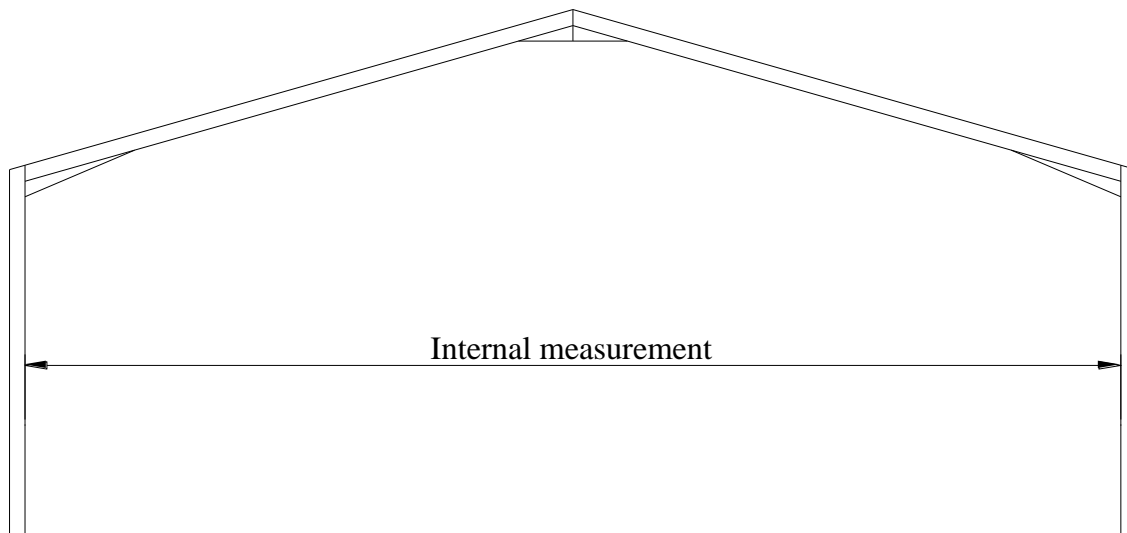

Figure 1: Measurement across a building
- 1.1 **Points of Measurement.** Houses are measured internally, between the inner faces of the external walls (see Fig. 1). The length of a building is measured in the same manner.